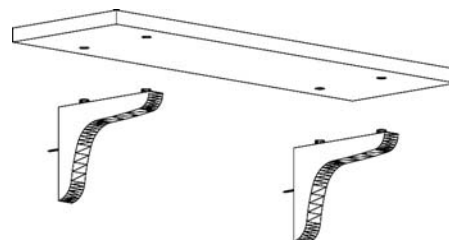

Figure 6
STEP 5: Place the Shelf over the Corbels so the 1" Pegs line up with the holes on the bottom of the shelf. Then lower the shelf as shown in **Figure 6**.